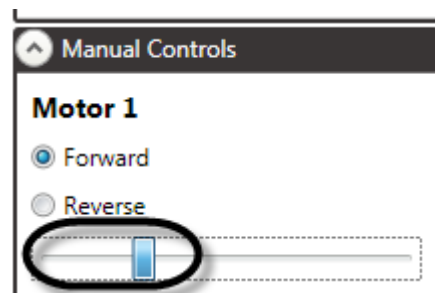

Figure 64
5. Click and drag the slider slowly to the right, which will release the brake and ramp up the motor speed (Figure 64).